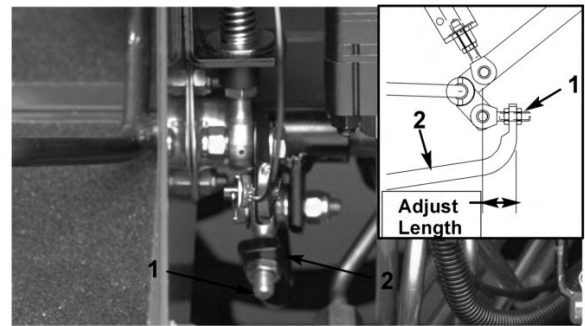

Figure 49
4. Adjust jam nuts on pump rod end to move pump control tube forward to eliminate forward creep or rearward to eliminate rearward creep (Figure 49).